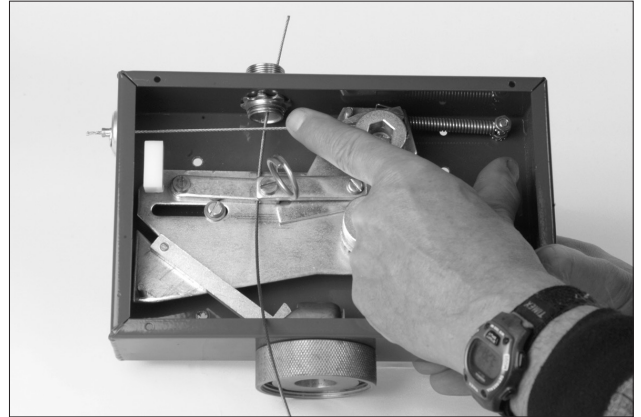

FIGURE 4-57
1. Starting at the PYRO-CHEM control head, connect the conduit connector using the supplied nut. Use only PYRO-CHEM Conduit Fittings (Part No. 55813). See Figure 4-57.